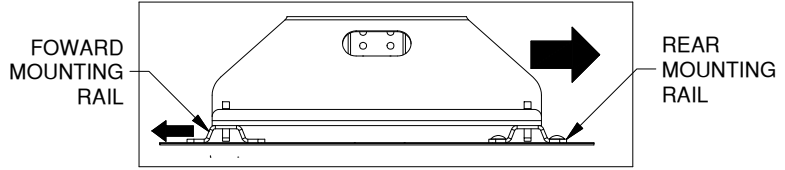

Figure C4: Side view of RV base and mounting rails.
3. **IMPORTANT:** Before drilling forward mounting holes pull the RV base towards the rear of the truck and push the forward rail towards the cab of the truck to correctly space the mounting rails, see figure C4.